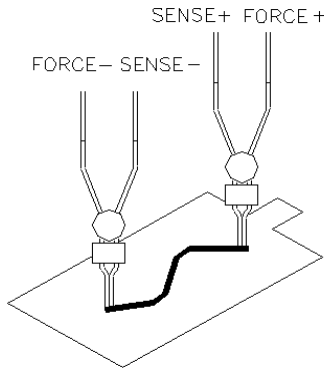

Fig. 4
- 5) Connect the 2 Kelvin clips as following Fig. 4 to measure the unknown resistance between two test points, such as PCB layout.